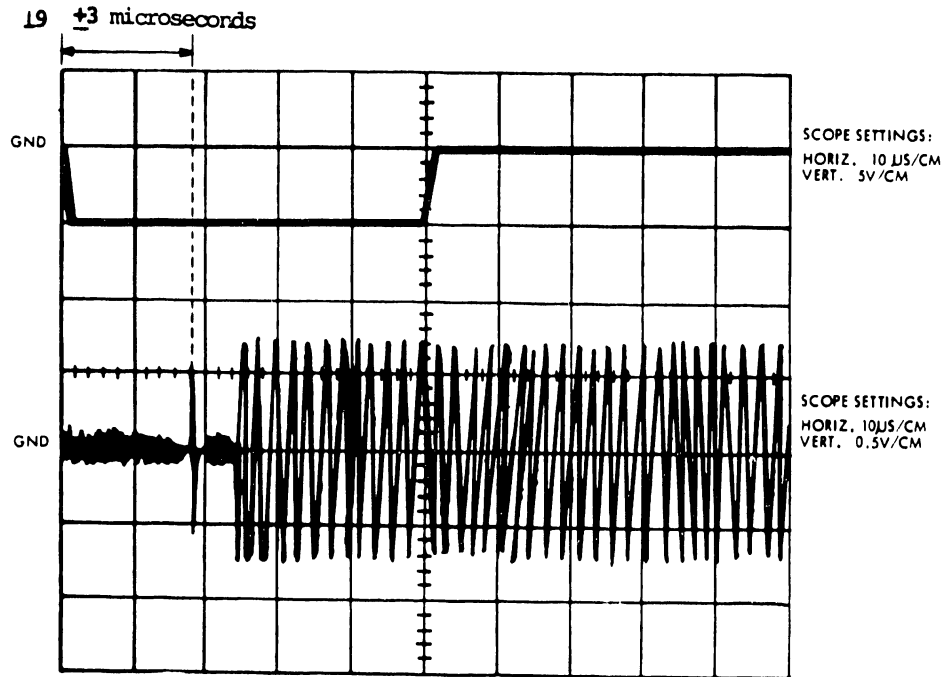

FIGURE 3-12 INDEX AND INDEX-TO-BURST WAVEFORM
18. By adjusting horizontal and vertical position controls, obtain waveforms similar to Figure 3-12.